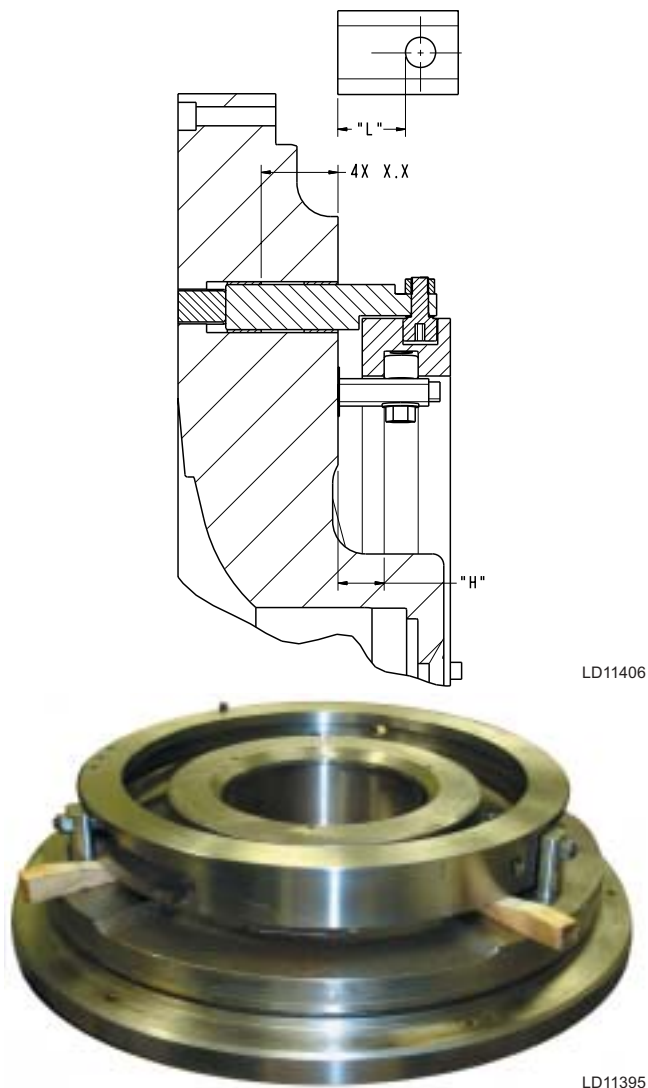

FIG. 63 – WEDGE PLACEMENT
- b. Utilize wooden wedge between nozzle base and the drive ring to force the drive ring up as high as possible before measuring (see FIG. 63).